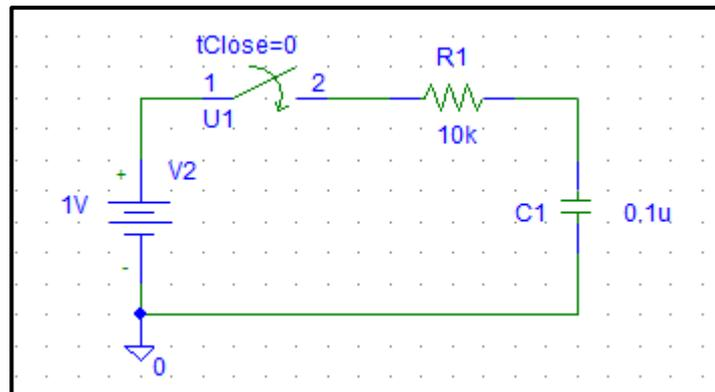
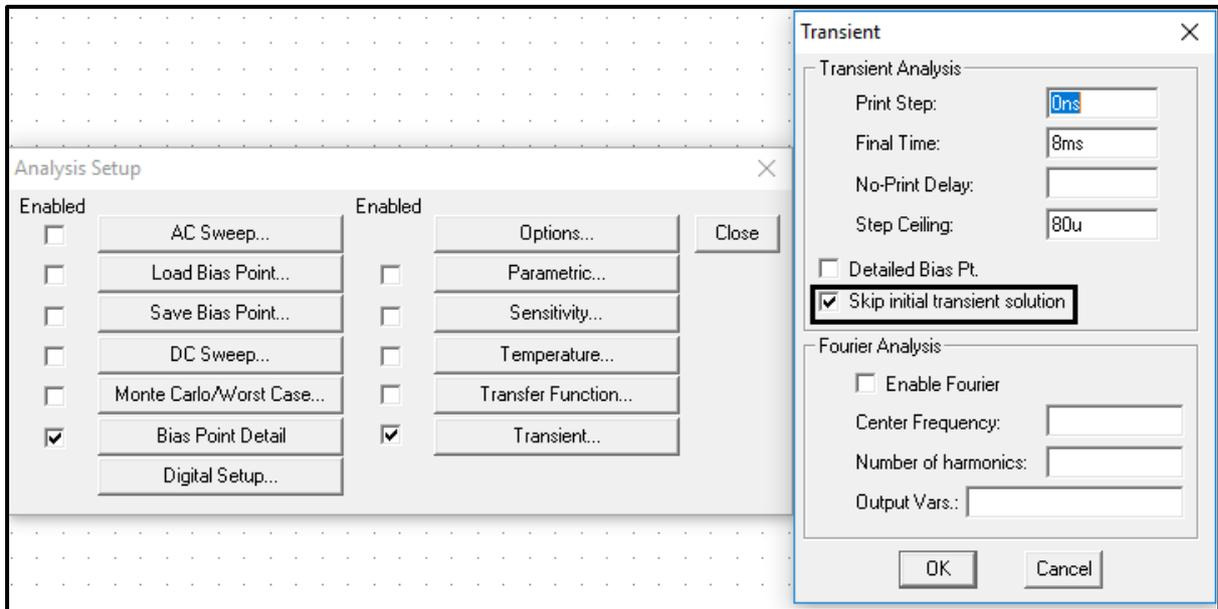
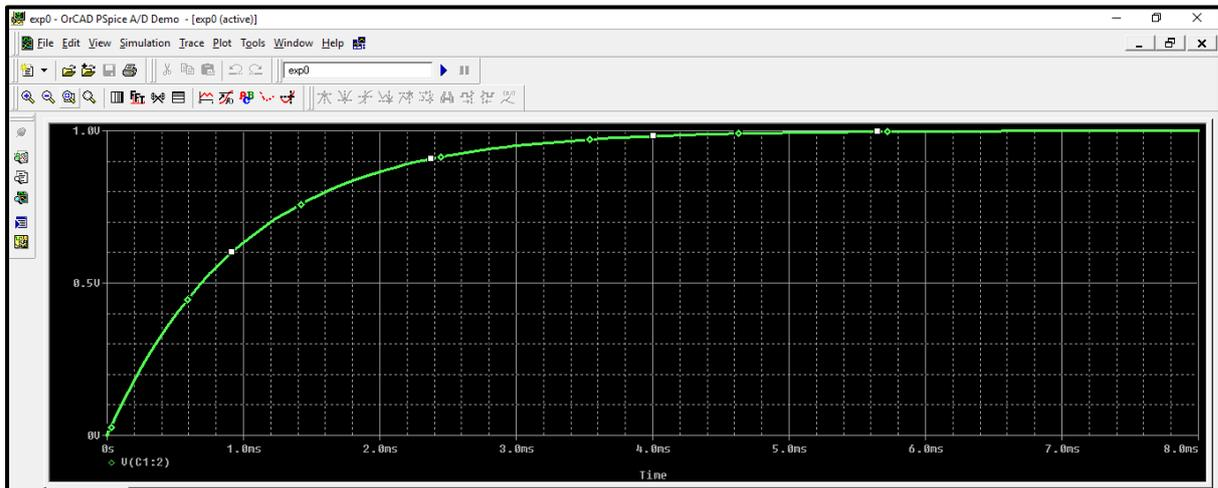
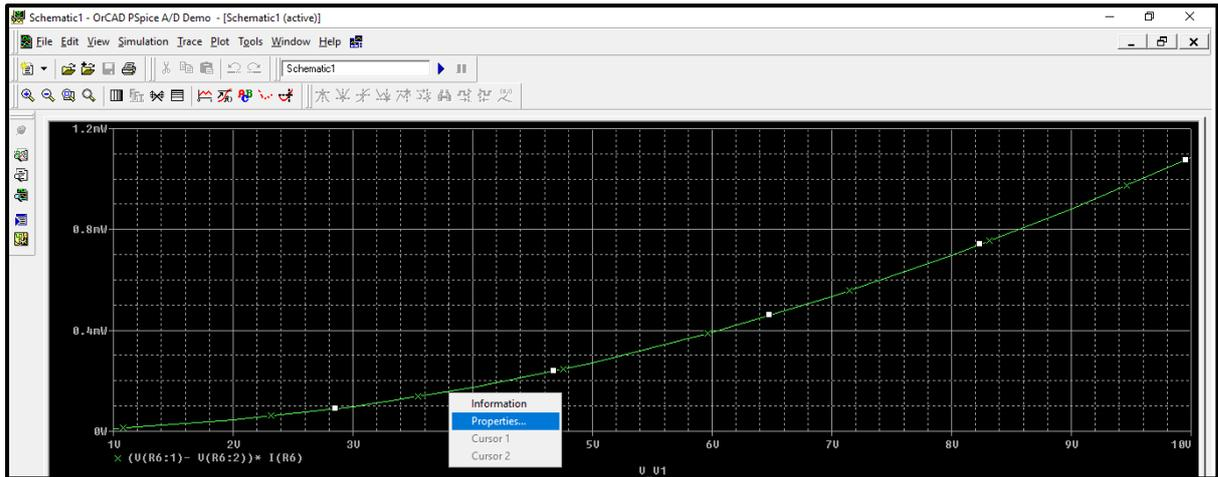

Figure.12
Figure.14
Figure.15
Figure.16
- The circuit shown in figure.12 contains a capacitor and a switch whose behavior depends on time, so we will use transient analysis.
- To perform a transient analysis for the circuit of figure.12, click on the “setup analysis” icon and select “Transient”, the window in figure.14 will show up.
- Make sure to **tick the box** beside “**skip initial transient solution**” as shown in figure 14.
- The output is now displayed in figure.15.
- To change any trace properties such as width and color, right click on the trace and select properties as shown in figure.16 (the trace in figure 14 is different and not the same trace of figure 15).